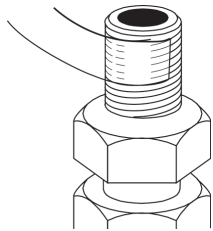

Figure 3
- Wrap a 3" (7.62 cm) long piece of PTFE tape to the right around the male threads of the fittings. Wrap tightly so that it conforms to the threads of the fitting and overlaps about 1/2". (Figure 3)